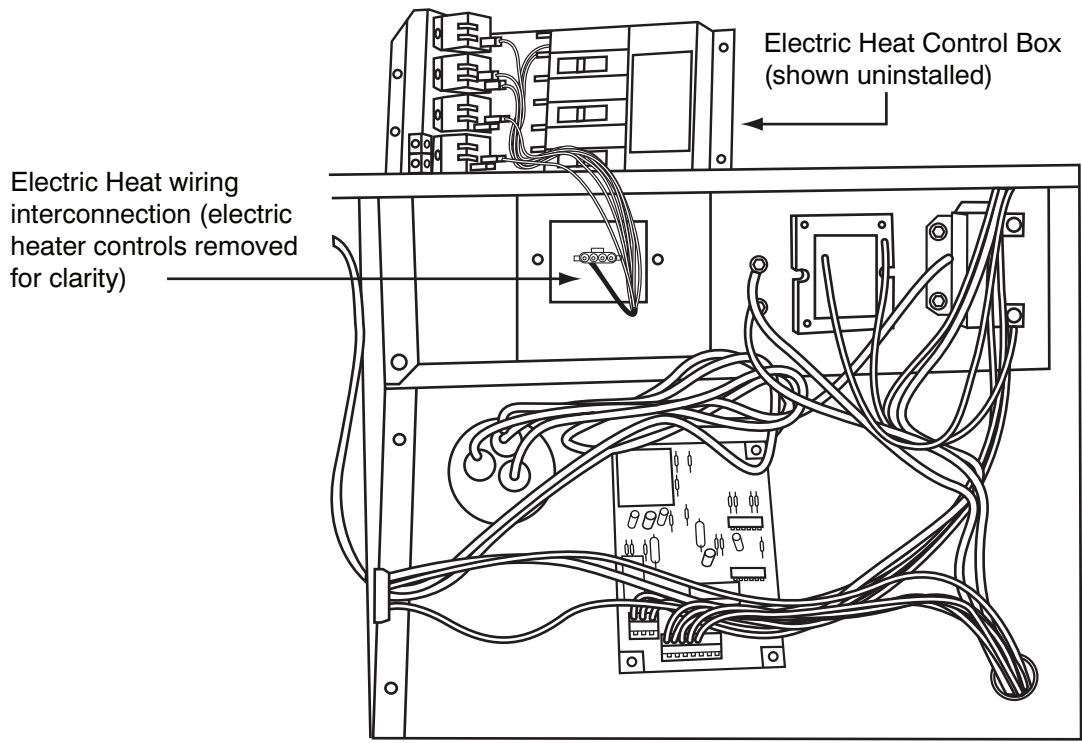

Fig. 5 - Unit Control Box Compartment
- Open heater package and remove heater control panel; set heater control panel on top of unit (See Fig. 5).